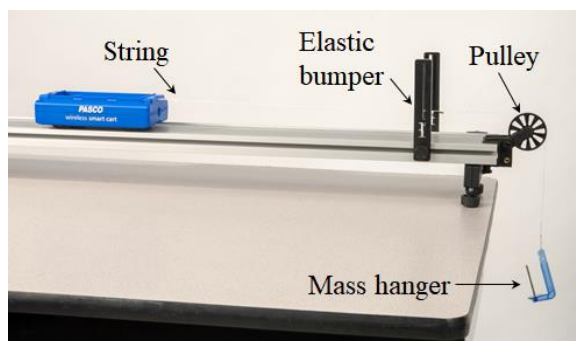

Figure 5: Smart Cart with Mass Hanging Over Pulley
1. As shown in Figure 5, clamp the pulley onto the end of the track where the elastic bumper is. Position the track so the pulley is just beyond the edge of the table.
2. Attach one end of a string to the cart, and run the string over the pulley. Attach a mass hanger to the other end of the string (see Figure 5). Make the string long enough so that when the cart is resting on the elastic bumper, the hanging mass is close to but not touching the floor.